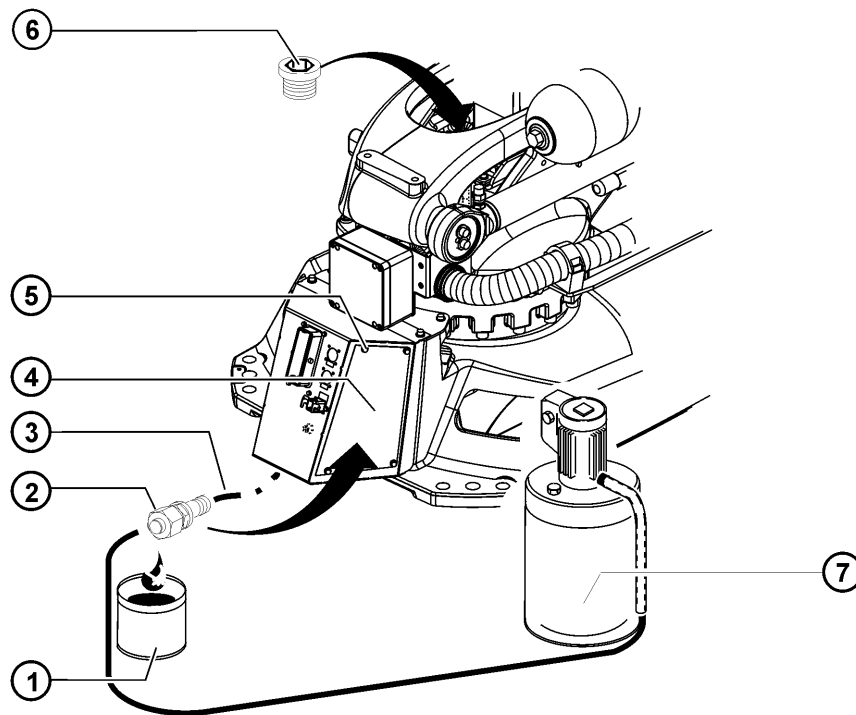

Fig. 9-2: Oil change, A1
1. Remove 4 Allen screws with conical spring washers, and take off interface A1 or cover (>>> Fig. 9-2).